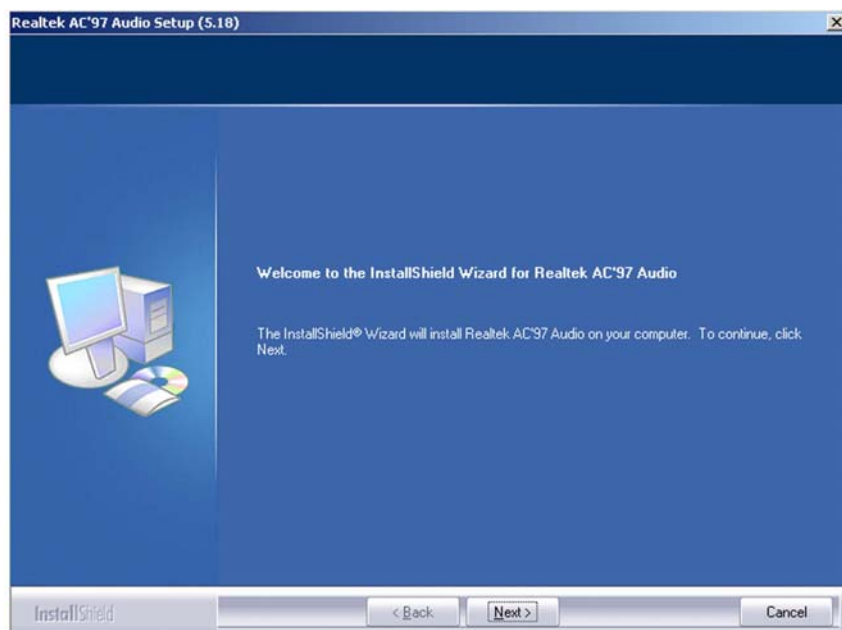
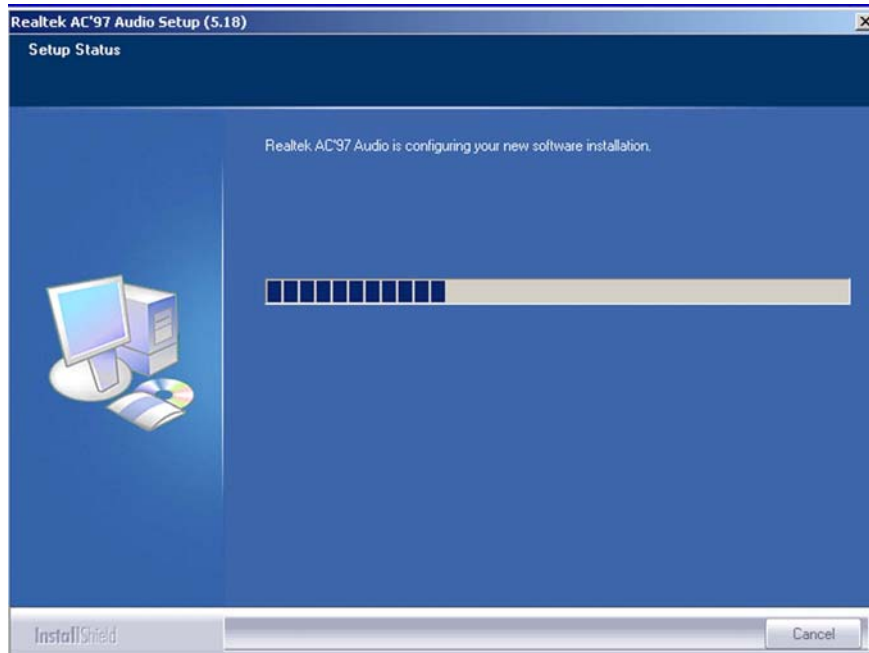

Figure 6-15: Audio Driver Welcome Screen
Figure 6-16: Audio Driver Software Configuration
Step 6: After install shield is prepared, the welcome screen shown in **Figure 6-15** appears. To continue the installation process, click the **"NEXT"** button. The install shield starts to configure the new software as shown in **Figure 6-16**.